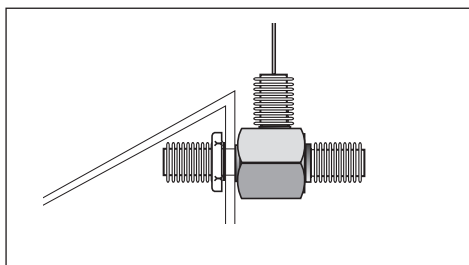

Figure 1. Splitter tee attached to the support bracket
1. Remove the column flow splitter from its packaging and attach it to the splitter support bracket with the nut and washer provided. See Figure 1 for the correct orientation.